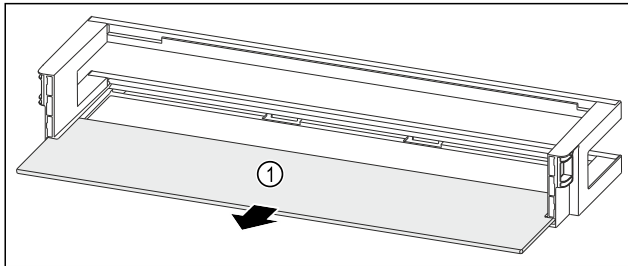

Fig. 109 Door rack with shelf
- Remove the shelf Fig. 109 (1).